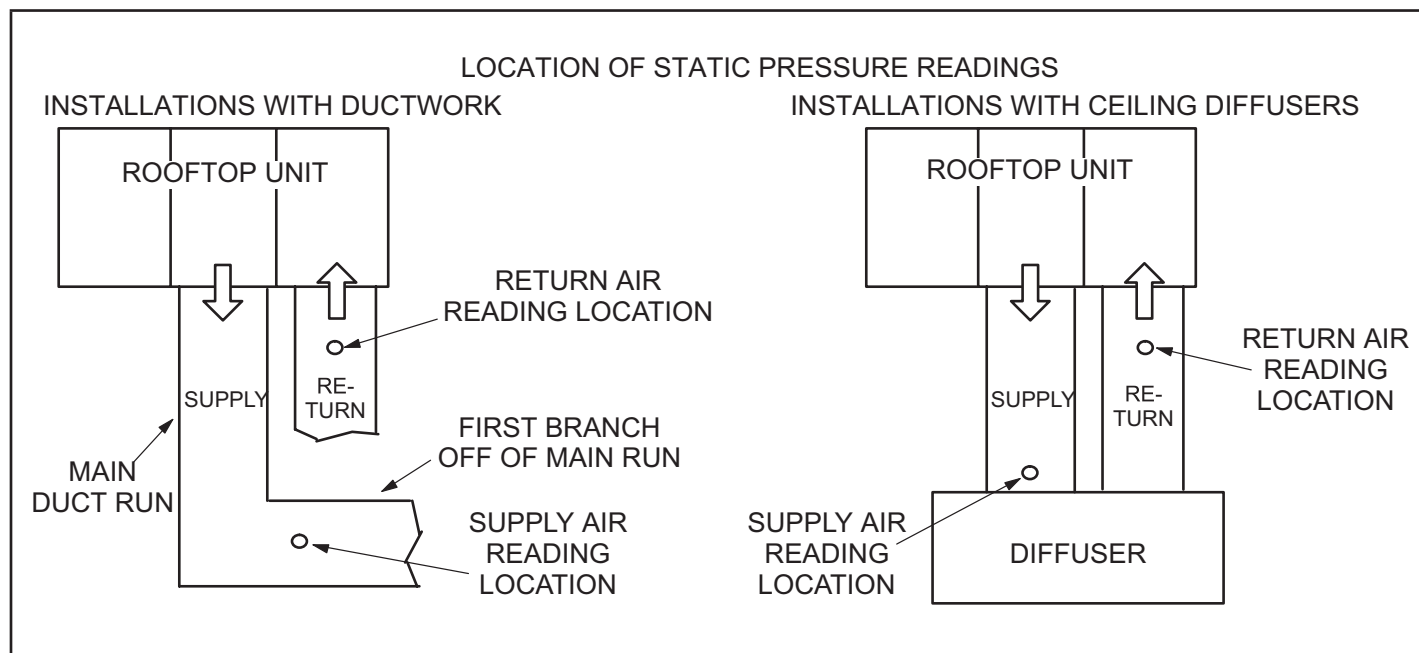

FIGURE 22
- 2 - With all access panels in place, measure static pressure external to unit (from supply to return). Blower performance data is based on static pressure readings taken in locations shown in FIGURE 22.